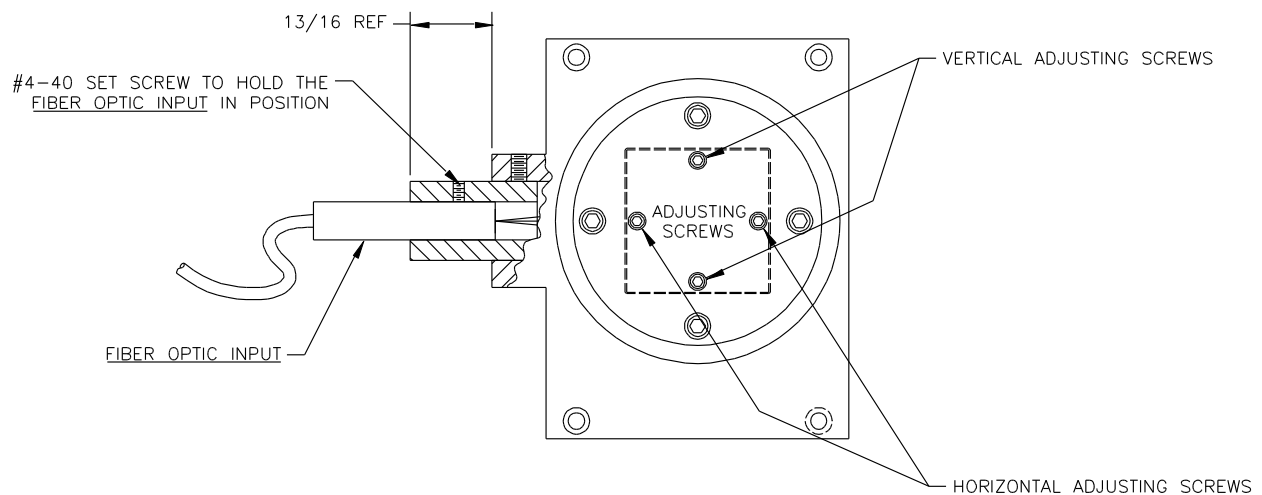

FIGURE 3
5. Carefully slide the Fiber Adapter back into the Entrance of the Imaging Fiber Coupler so that the end of the Fiber Adapter is located approximately $13/16$ ” from the Entrance (See Figure 3).
8. All adjustments to the vertical or horizontal position of the fiber images on the CCD should only be made using the adjusting screws labeled on the housing of the Imaging Fiber Coupler (See Figure 3). **NO OTHER MIRRORS SHOULD BE ADJUSTED.**
10. To align the fiber images vertically (up or down) on the entrance slit of the SpectraPro Spectrograph, alternately tighten and loosen the stainless steel Horizontal Adjusting Screws (See Figure 3). Note: If one screw is tightened, the other screw should be loosened by approximately the same amount.